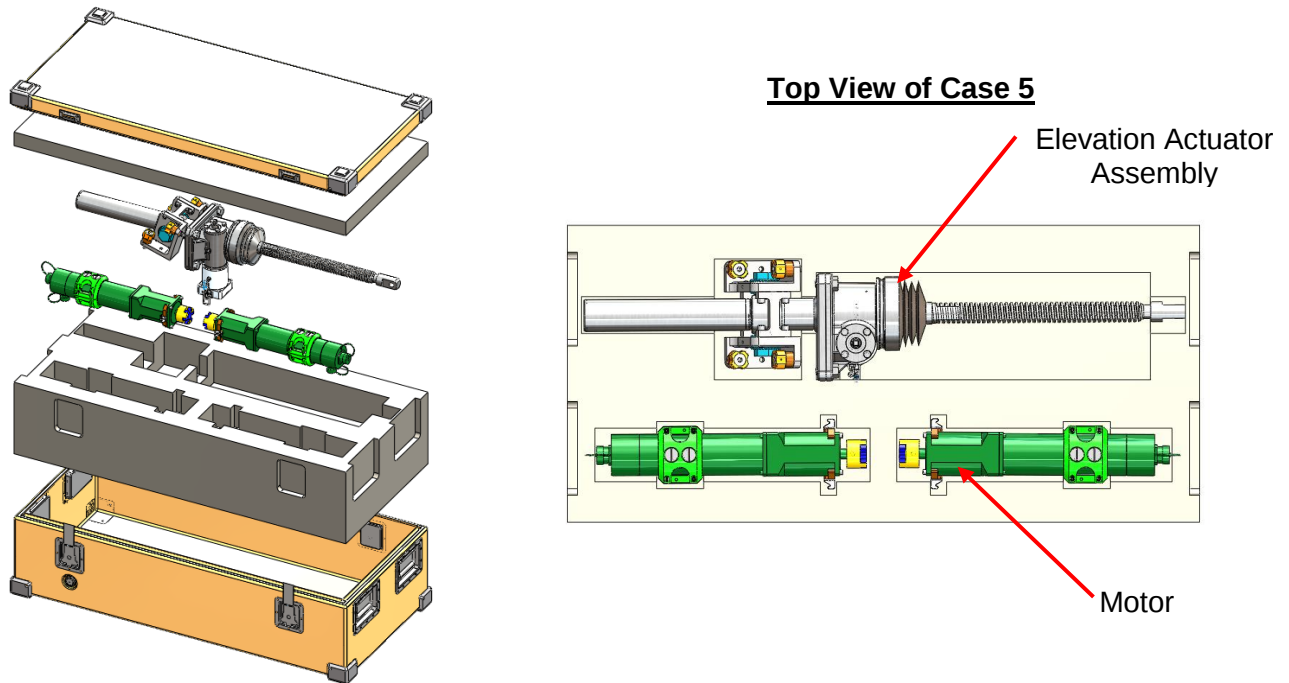

Figure 51. Case No. 5 Pack-Up
35. Place motors in Case 5 as shown in Figure 51.
37. Remove the compression pin from elevation actuator assembly and place elevation actuator assembly in Case 5 as shown in Figure 51.